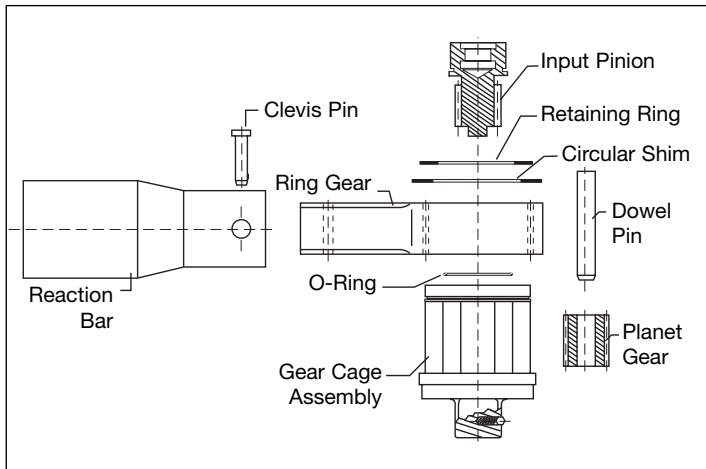

Fig. 4
1. Remove Retaining ring and circular shims (figure 4) from input side of torque multiplier housing.
3. Remove input pinion from gear cage assembly with a pulling and twisting motion. Use an arbor press to remove dowel pins from planet gears (figure 4).